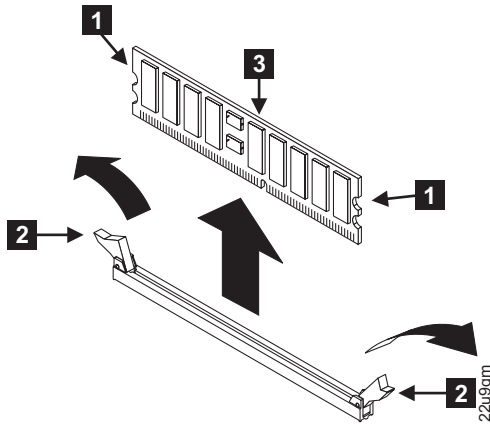

Figure 95. Removing the memory modules
- Open the clips **2** by pressing them outward, as shown in Figure 95. This action pulls the memory module **3** out of the connector.